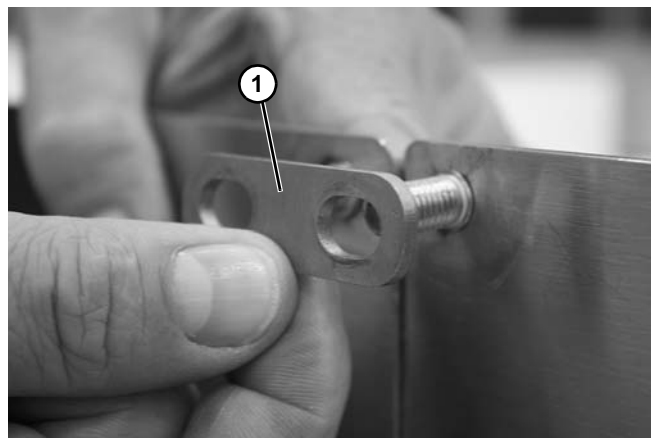

Figure 31
4. Install the connecting plate (Figure 31, item 1) over the studs.